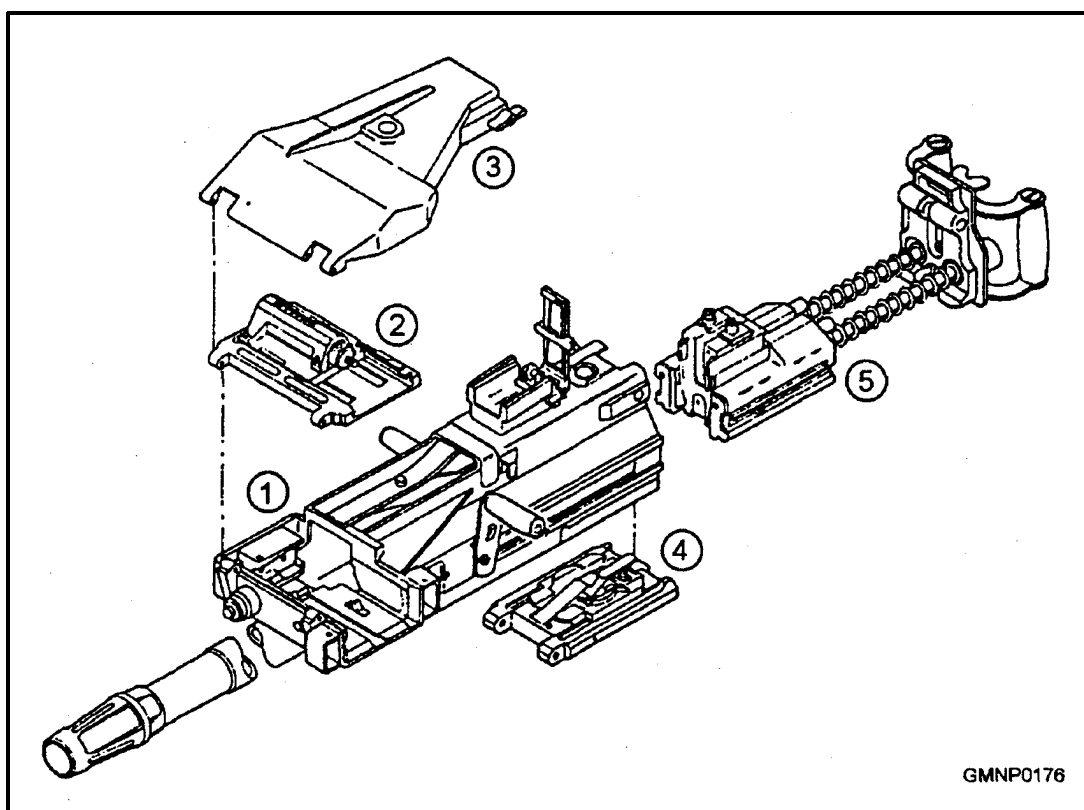

Figure 3-102.—Major components of the Mk 19 Mod 3 machine gun.
The Mk 19 Mod 3 machine gun has five major components, as shown in figure 3-102. These are the receiver assembly, the feed slide assembly and tray, the top cover assembly, the sear assembly, and the bolt and backplate assembly.
**RECEIVER ASSEMBLY.**— The receiver assembly (fig. 3-102, 1) provides support for the other major assemblies of the weapon.
**FEED SLIDE ASSEMBLY AND TRAY.**— The feed slide assembly and tray (fig. 3-102, 2) holds the rounds in the feeder and indexes ammunition into the firing position.
**TOP COVER ASSEMBLY.**— The top cover assembly (fig. 3-102, 3) holds the feed slide assembly and tray. It is opened by a latch (left side) for loading or to clean and inspect the weapon.
**SEAR ASSEMBLY.**— The sear assembly (fig. 3-102, 4) holds the receiver sear. Trigger action depresses the sear, releasing the bolt and allowing the bolt to move forward for firing. The safety is attached to the sear assembly. When the safety slide is activated, it blocks the sear from being depressed by the operator as long as the safety is on S (SAFE).
**BOLT AND BACKPLATE ASSEMBLY.**— Located on the bolt and backplate assembly (fig. 3-102, 5) is the handgrips and the trigger. When the trigger is depressed, it operates the sear assembly that releases the bolt for firing. The bolt is driven forward by a dual set of operating springs set around guide rods.